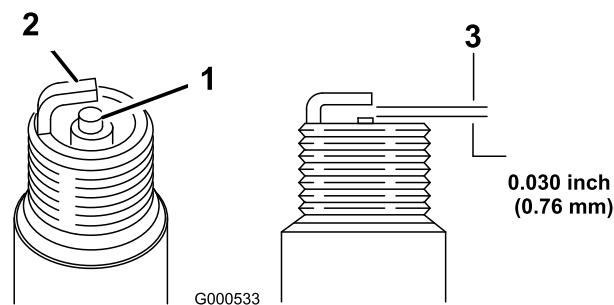

Figure 36
1. Look at the center of the spark plug (Figure 36). If you see light brown or gray on the insulator, the engine is operating properly. A black coating on the insulator usually means the air cleaner is dirty.
2. Check the gap between the center and side electrodes (Figure 36). Bend the side electrode (Figure 36) if the gap is not correct.